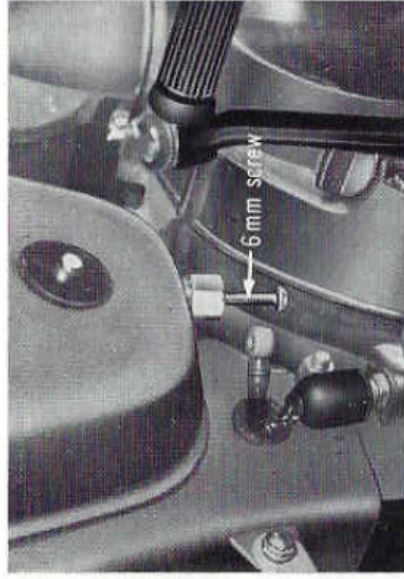

Fig. 8-1-5
8. Unscrewing union bolt with a 10 mm wrench, disconnect **oil line** from oil tank outlet and insert a 6 mm bolt or screw into oil tank outlet to prevent oil leakage. Push oil line through hole into flame. (Fig. 8-1-5)